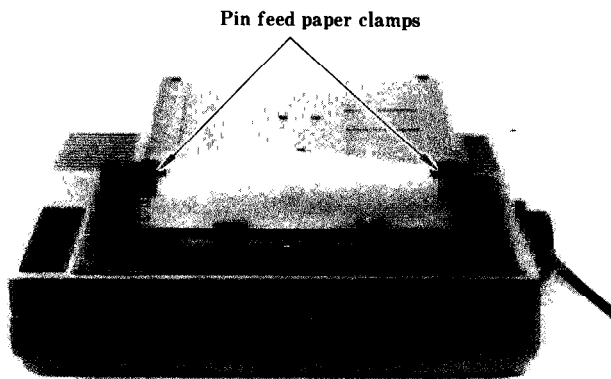

Figure 9
5. Adjust the pin feed paper clamp positions for the width of the paper. Refer to Figure 9